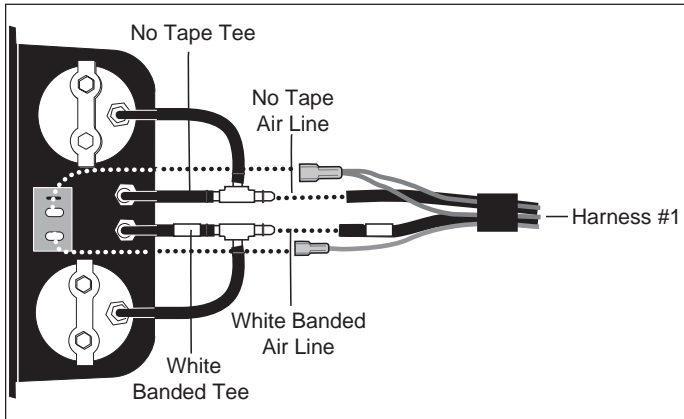

Figure 4
All of the electrical connections are matched by male-to-female push-in terminals. All of the air line connections will be white-to-white, no tape-to-no tape, indicated by the color band. The color band also serves as a reference point for installing the air line into the fitting. Properly installed, the front edge of the color band should be against the collar of the fitting (Figures 4 & 6).
3. Now connect Wiring Harness #1 to the back of the gauge panel. With your thumb against the front side of the switch, connect the wire by pushing the female connectors onto the blade connectors on the switch. Match the air line by the color band on the air line to the color band on the tees. Push the air lines onto the "T" fittings until the air line completely covers the barb (Figure 4). Lubricating the air line will ease pushing the air line over the barb. Do not connect the power wire at this time.